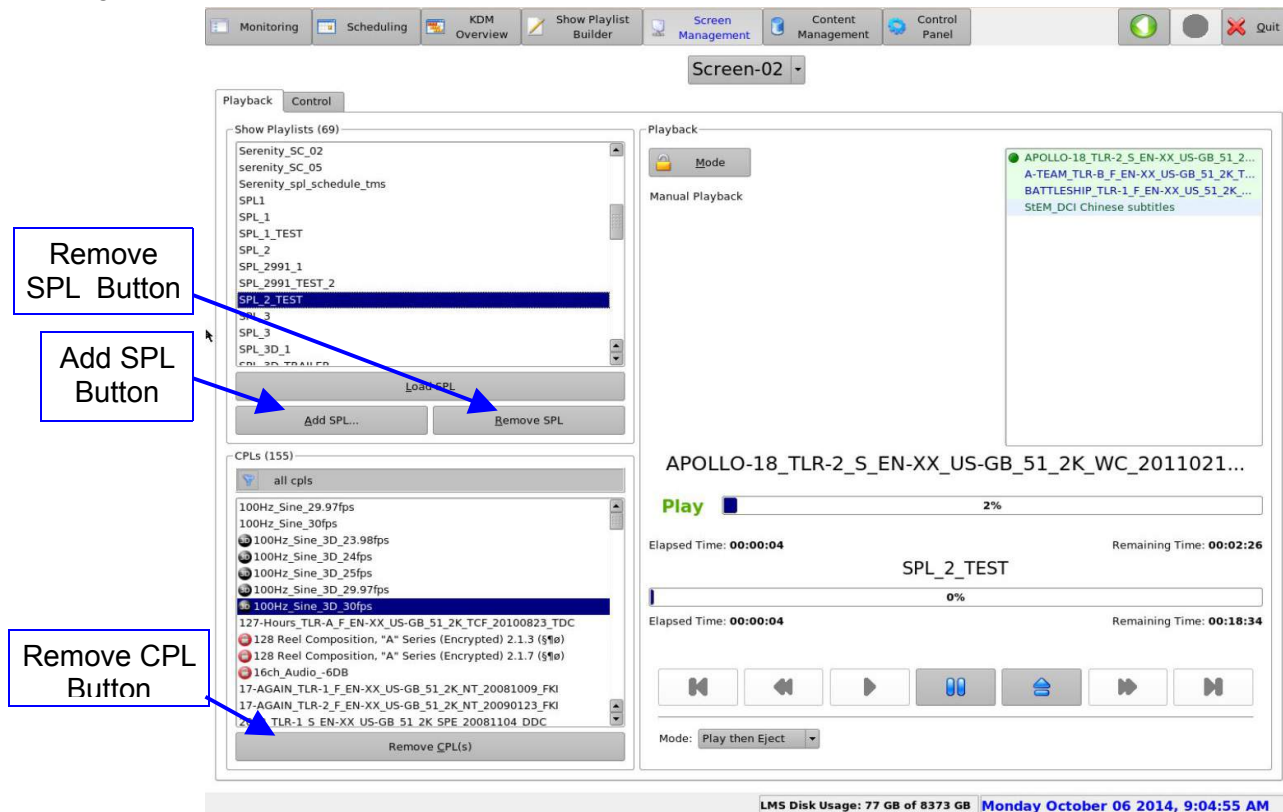

Figure 77: Screen Management Tab – Administrator Account
- When logged in as admin or manager the user will be able to add or delete a SPL and CPL (Figure 77).